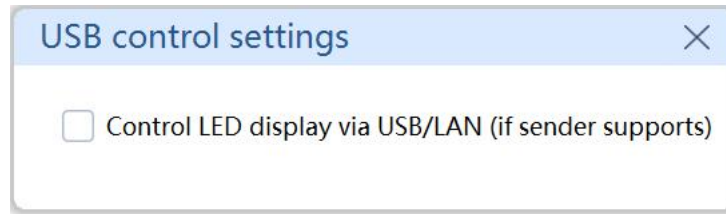

Fig.3-96 Control LED display via USB (if sender supports)
- **Setting:** Click **Setting** to bring up a pop-up window where you can enable or disable the option **Control LED display via USB/LAN (if sender supports)**. See Figure 3-96.